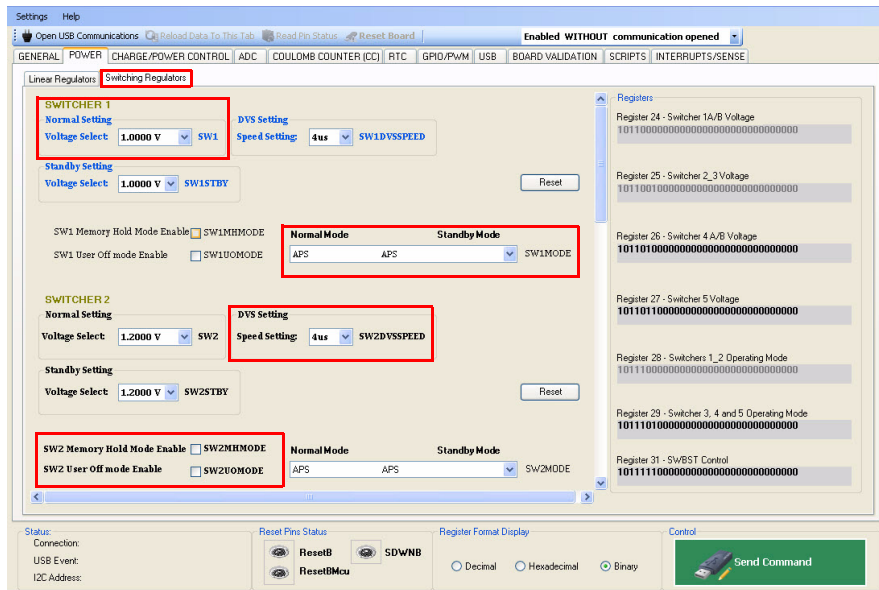

Figure 22. Switching Regulators Sub-tab Configuration Window 1
9. Click the **Switching Regulators** sub-tab to view the switching regulators configuration features as shown in Figure 22.